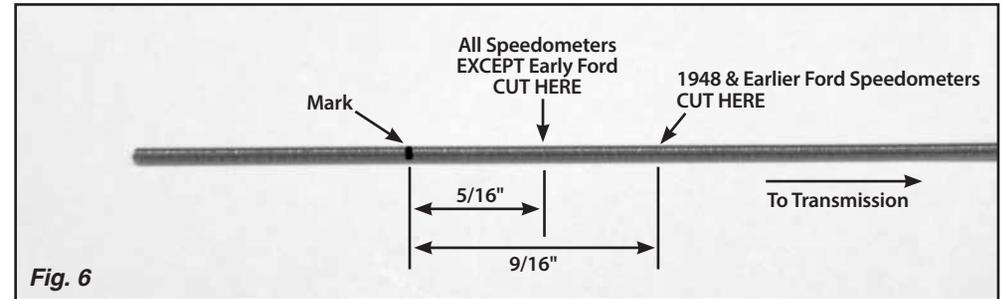

Fig. 6
**Step 8, All Speedometers EXCEPT Early Ford:** Measure 5/16" back towards the transmission from your mark, and cut the inner wire there. **Fig. 6**
**Step 8, 1948 & Earlier Ford Speedometers:** Measure 9/16" back towards the transmission from your mark, and cut the inner wire there. **Fig. 6**